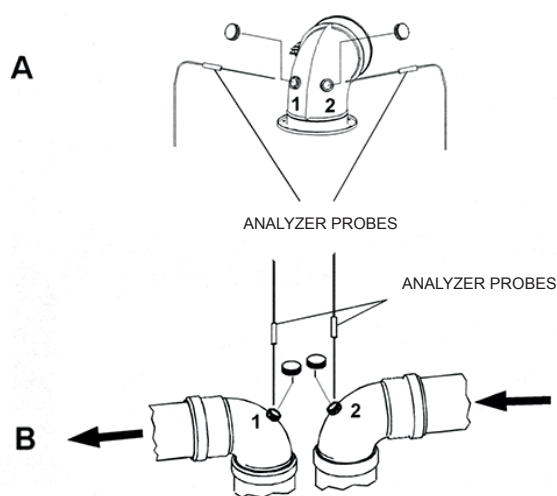

Fig. 14 Examples of flue gas testing points
- assess combustion air temperature from opening 1 (see ref. (A) Fig. 14 Examples of flue gas testing points , for sealed chamber boilers provided with pipes with preset holes).
- assess flue gas temperature and CO2 quantity from no. 2 opening (see ref. (A) Fig. 14 Examples of flue gas testing points , for sealed chamber boilers provided with pipes with preset holes).
- assess combustion air temperature from opening 2 (see ref. (B) Fig. 14 Examples of flue gas testing points , for sealed chambers provided with pipes with preset holes).
- assess flue gas temperature and CO2 quantity from no. 1 opening (see ref. (B) Fig. 14 Examples of flue gas testing points , for sealed chamber boilers provided with pipes with preset holes).